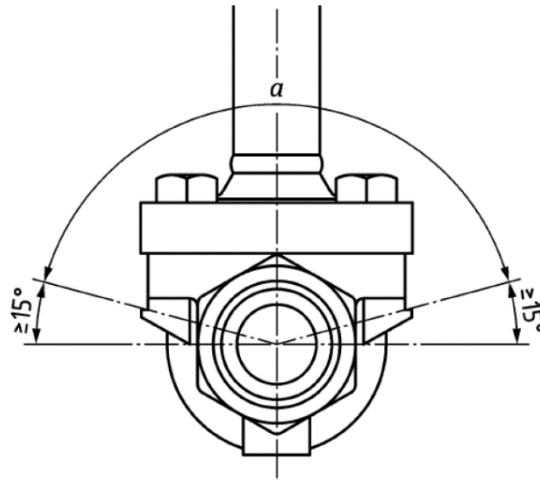

Figure 2 - Picture Extract from DIN EN ISO 28921-1:2017-05
4.2.3.8 Valves intended for cold box applications and equipped with an extended top for liquid applications must function with the stem at an angle of 15° to 90° above the horizontal plane (Figure 2).